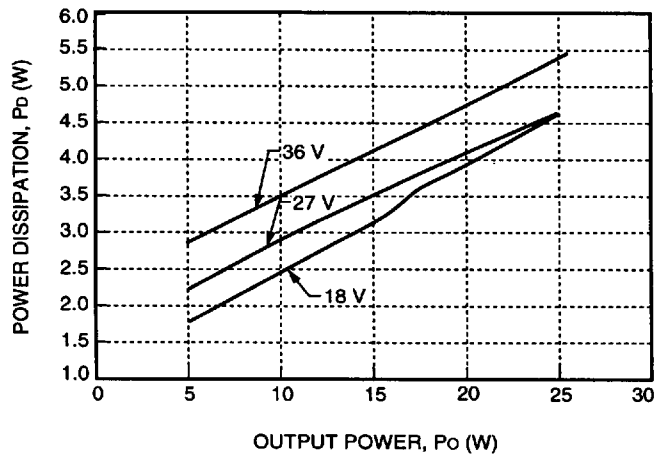
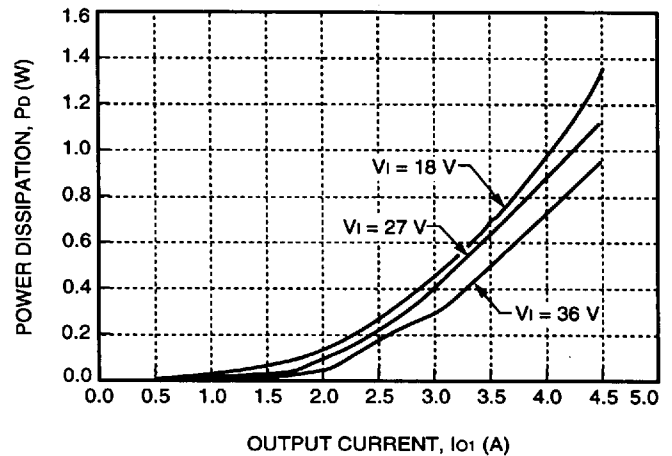

Figure 23. DC025ABK-M Fixed Losses, P_p
Figure 25. DC025ABK-M, DC025ACL-M Losses, Associated with 5 V Output, P_{s1}
The maximum operating temperature of the DC025 Triple Output-Series Power Modules at a given operating condition can be predicted by combining the power dissipation curves (Figures 23 through 27), the power derating curve (Figure 28), and the thermal resistance curve (Figure 28).
Use Figures 23 through 28 and the steps below to predict the safe operating region for many different operating and environmental conditions.
2. Use P_{total} with the appropriate figure (Figure 23 or 25) to determine the fixed losses (P_P) associated with operating at P_{total} . These losses are independent of which output the load is being drawn from.
3. Use the desired output current (I_{O1}) with Figure 25 to determine P_{S1} , which is the additional power being dissipated due to loading of the main output.
4. Repeat Step 3 for outputs 2 and 3 using the appropriate figure (Figure 23 or 27) to determine P_{S2} and P_{S3} , which is the power dissipated due to loading of the auxiliary outputs.
$$\begin{aligned} P_P &= 4.5 \text{ W (from Figure 23)} \\ P_{S1} &= 0.22 \text{ W (from Figure 25)} \\ P_{S2} &= 0.07 \text{ W (from Figure 23)} \\ P_{S3} &= 0.07 \text{ W (from Figure 23)} \end{aligned}$$